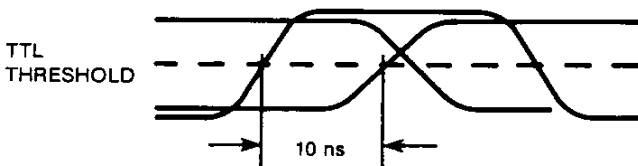

Figure 6.8
- b. Adjust W1 (R14) for 10 ns between the  $\overline{WE}$  rising edge and the first address edge. (See Figure 6.8).